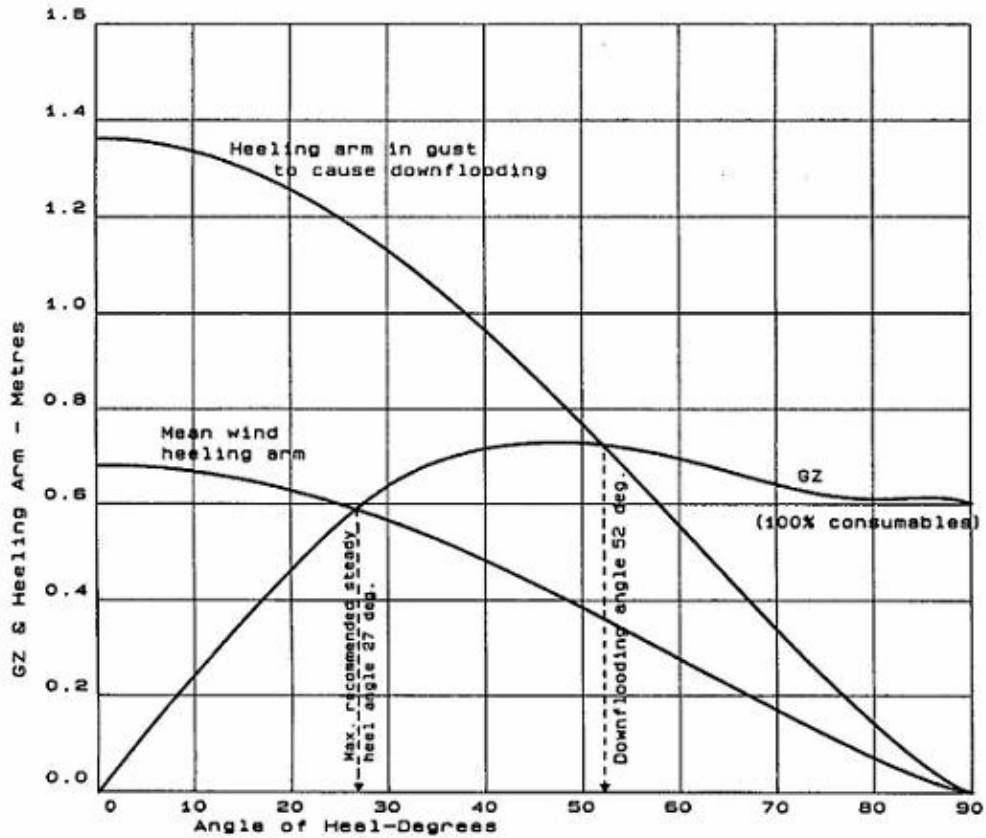

Figure 1
In assessing the risks of down-flooding, the Master should be guided by figures 1 and 2:
Figure 1: shows the maximum recommended steady heel angle to prevent down flooding in gusts. Operation of the yacht at a greater heel angle would result in down flooding if it were to encounter the strongest possible gust in the prevailing turbulent air stream, which could exert a heeling moment equal to twice that of the mean wind.
*[Figure 1 is to be replaced by a curve specific to the yacht in question]*